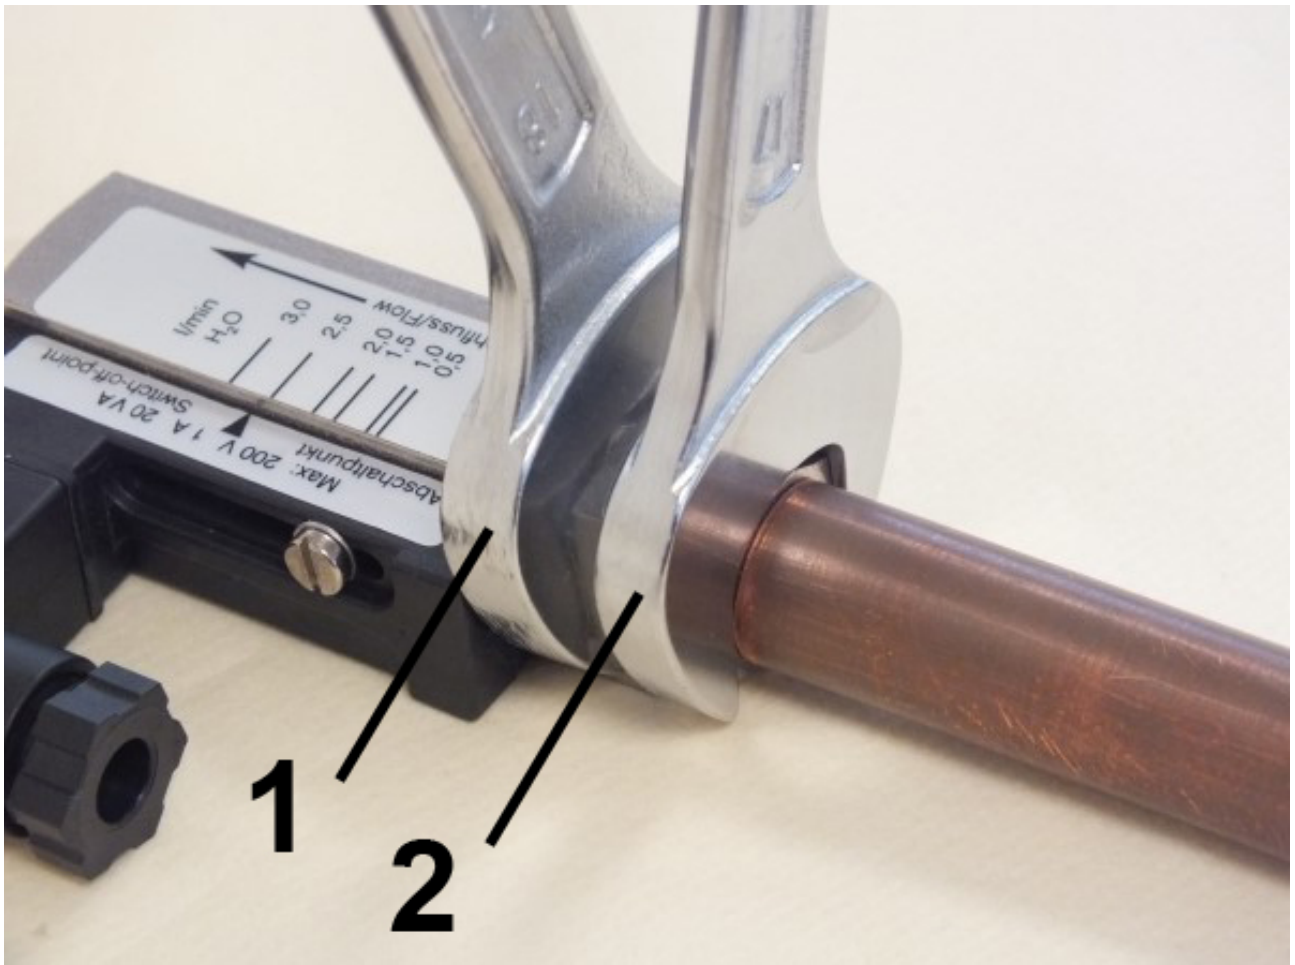

Fig. 12: Screw in the device
3. ➤ Keep turning in the adapter union (Fig. 12/2) while holding the process connection of the device locked (Fig. 12/1) until the connection is tight.